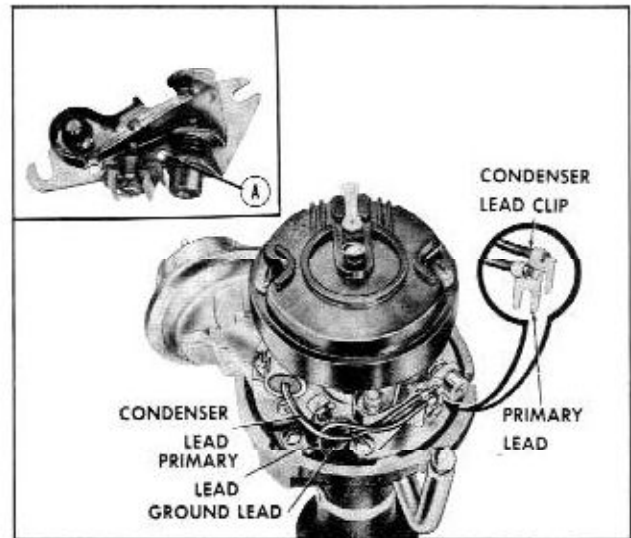

Fig. 13-62 Installing Contact Point Set
3. Upon reassembly make sure that hole "A" in the contact set is centered over the dowel on the distributor plate and install the primary leads as shown in Fig. 13-62. Leads must be properly located to eliminate lead interference between cap, weight base, and breaker advance plate.